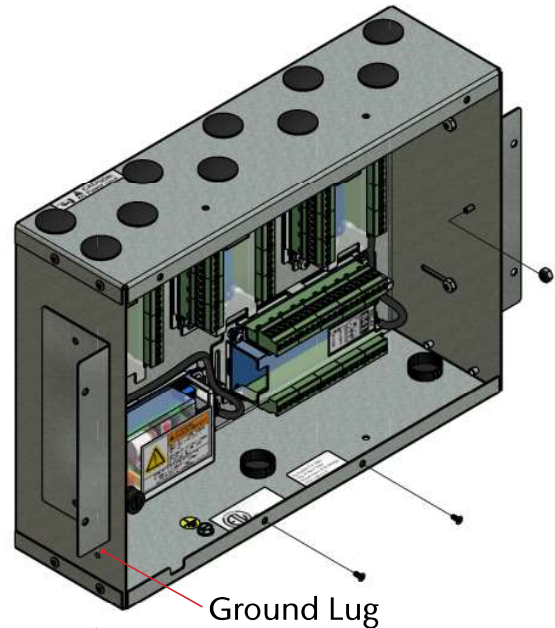

Figure 31: Front Panel Screws
2. Remove front panel mounting screws from alarm panel rough-in box assembly (Figure 31).
3. Remove lanyard mounting nut from alarm panel back box assembly (Figure 31).